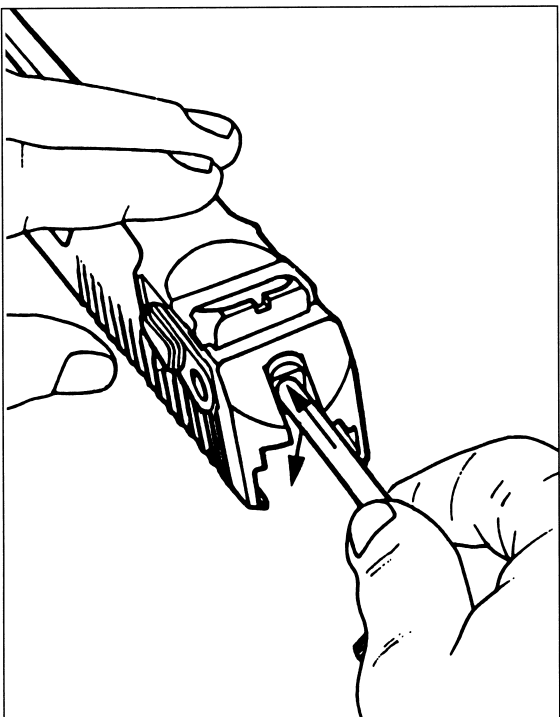

fig. 16
2. Push the rear end of the firing pin in with the combination tool and slide the firing pin stop down (fig. 16). The firing pin is now free to be pushed out by its spring.